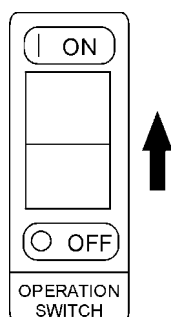

Figure 27. Generator On/Off Switch (Off)
4. To shut-down the engine, place the generator **ON/OFF** switch (Figure 27) in the **OFF** position